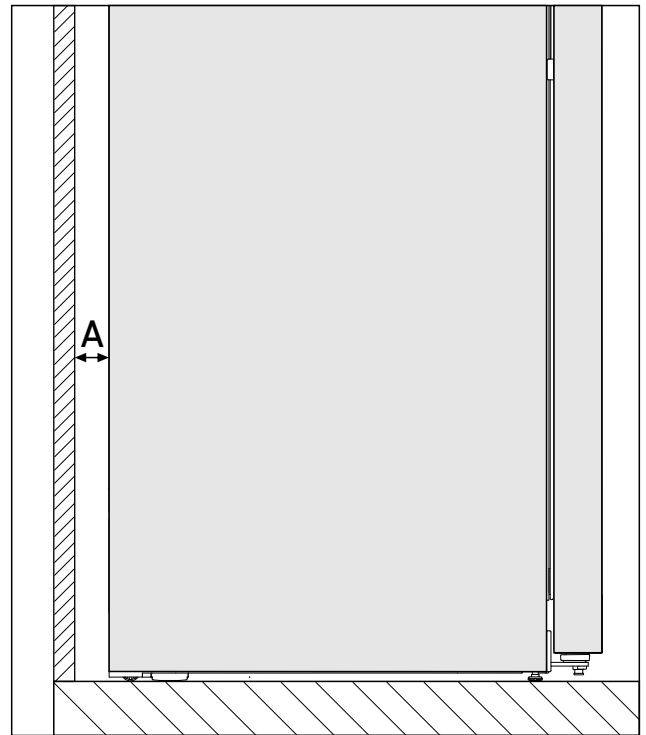

Fig. 2*
The energy consumption has been determined with a gap of Fig. 2 (A) between the rear of the appliance and the wall. If the wall gap is less than Fig. 2 (A), this does not affect the appliance's operability but the energy consumption does increase slightly at a smaller wall gap.^{*}